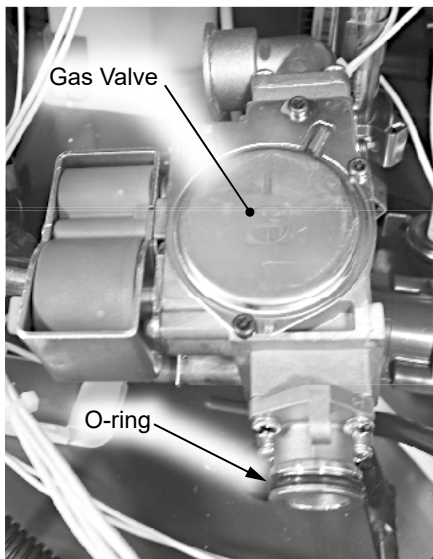

Figure 4 - Gas valve o-ring
- 14 Locate the new O-ring included in the kit, install it as shown in Figure 4.